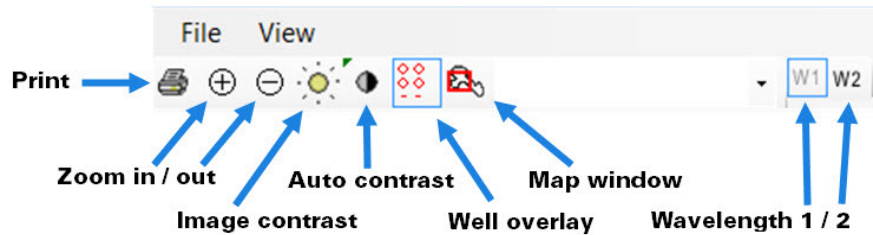

Figure 26. *Image Viewer* toolbar icons.
- c. If necessary, resize the fiducial image to view a 6 x 6 grid (36 nanowells). Use the following tools in the *Image Viewer* toolbar to check and correct fiducials: **Zoom in/Zoom out**, **Image contrast**, **Auto contrast**, **Well overlay**, **Wavelength 1 or 2 (W1, W2)**. Figure 26 provides a legend for the *Image Viewer* toolbar icons.